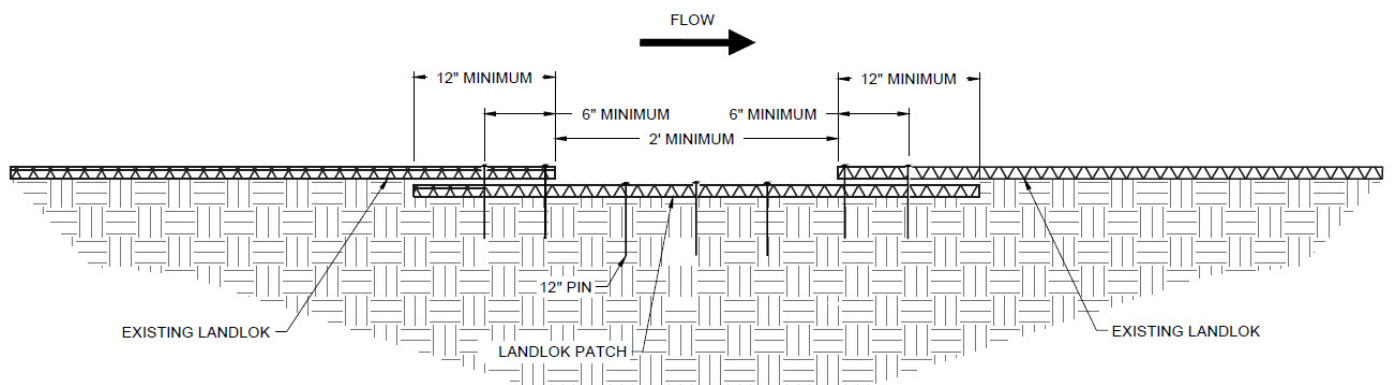
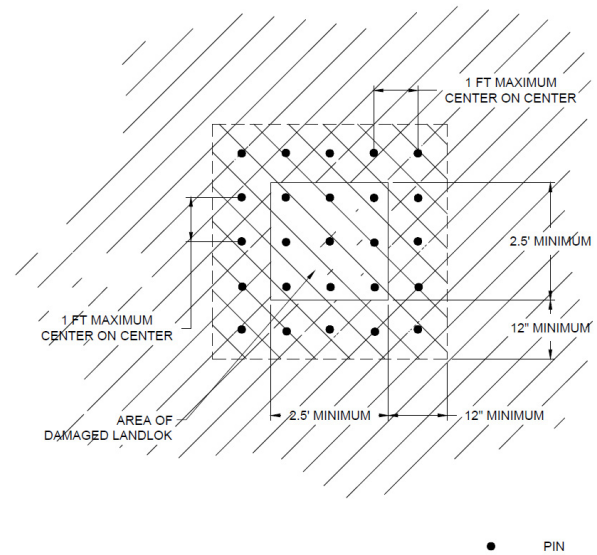

Figure 14: **PROPEX** Landlok TRM Patch Cross Section
Figure 15: PROPEX Landlok TRM Patch Plan View
- Acceptable (A) - The rated area is in satisfactory, acceptable condition, and will function as designed and intended during the rain event. **PROPEX** Landlok TRM has no exposed edges, is installed tightly by maintaining direct contact to the slope surface with no rilling beneath, and has over 90% vegetation cover. There is no noticeable damage present.
- Minimally Acceptable (M) - The rated area has a minor deficiency that needs to be corrected. The minor deficiency will not seriously impair the functioning of the area during the next rain event; however, the overall reliability of the project will be lowered because of the minor deficiency. **PROPEX** Landlok TRM has 75% vegetation cover with un-vegetated patches as large as one square yard. Edges of **PROPEX** Landlok TRM are exposed with noticeable damage. Minimal erosion has occurred underneath the TRM.
- Unacceptable (U) - The rated area is unsatisfactory. The deficiency is so serious that the area will not adequately function in the next rain event. **PROPEX** Landlok TRM has been physically torn, ripped, or lifted from the slope surface. Less than 75% vegetation cover is present with un-vegetated patches being greater than 1 square yard, and there is evidence that erosion is occurring beneath **PROPEX** Landlok TRM.
- To repair **PROPEX** Landlok TRM, cut out and remove damaged areas in a square configuration a minimum size of 2 ft by 2 ft (0.6 m x 0.6 m). Remove all vegetation and debris atop of **PROPEX** Landlok TRM. Loosen the top 1 in to 2 in (25 mm - 50 mm) of soil in the patch area then seed. The subgrade of area to be patched shall be prepared to be smooth and uniform and transition smoothly into the in-situ area. Cut a square **PROPEX** Landlok TRM patch a minimum of 12 in add (305 mm) greater than the damaged area for all four sides of the patch. Overlap the patch area in all directions a minimum of 12 in add (305 mm). The patch overlaps shall be tucked under the existing damaged **PROPEX** Landlok TRM material (Figure 14 and Figure 15)